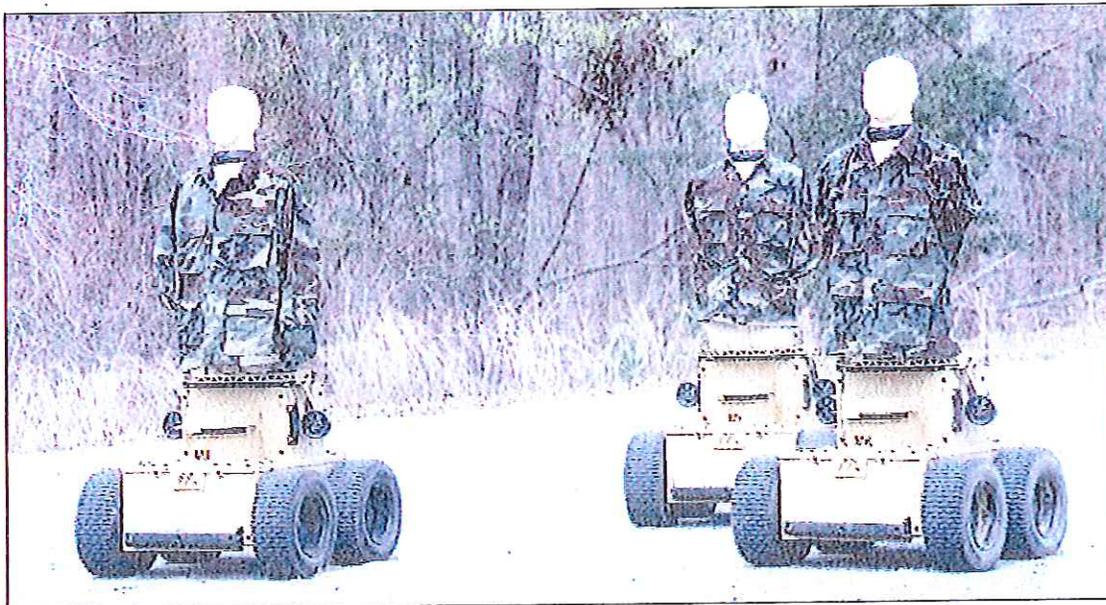

Figure 1. The RHTT T40.
b. The four-wheeled, RHTT T40 model (Figure 1) manufactured by Marathon Targets will be used as robotic targets. Movement of the RHTT T40 is remotely controlled via Wi-Fi by an operator via a laptop. Movements are either along programmed or random paths within an operator-defined area. The RHTT T40 is used to program the operator-defined area in addition to functioning as targets. Each RHTT T40 has a switch on its base for changing from charge mode to operational mode, plus an emergency-stop lanyard.